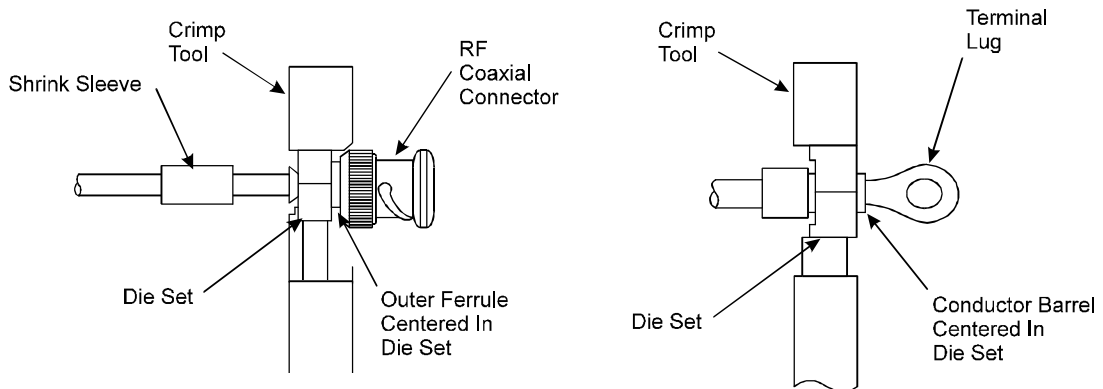

Figure 1-37
2. Hold the crimp barrel centred in the die set as shown in Figure 1-37. Squeeze the tool handles smoothly until the ratchet releases.